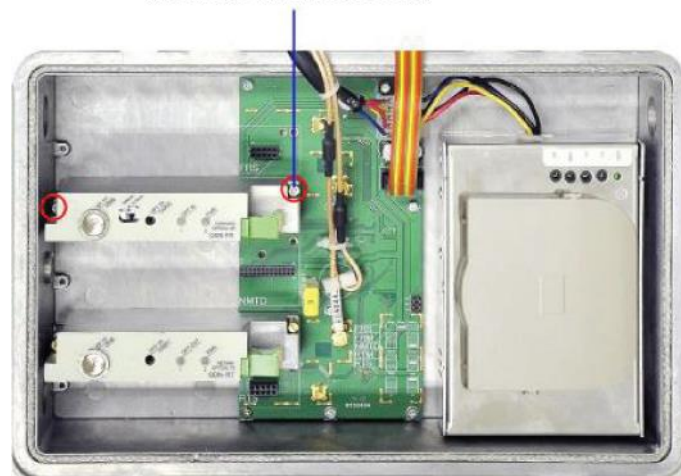

Figure 5-9 Module Anchor Screws
- b) Unscrew the two anchor screws that hold the ODN2000 module in place (Figure 5-9).